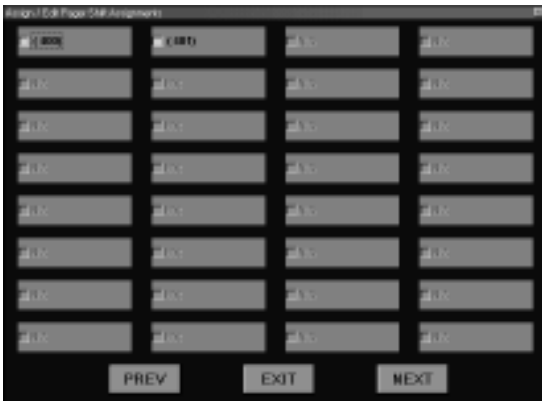

Figure 34: Assign/Edit Pager Shift Assignments
11. A new screen will appear to allow for pager shift assignments. Refer to *Figure 34* for the ASSIGN/EDIT PAGER SHIFT ASSIGNMENTS menu that will appear. (NOTE: The pagers listed in red are already selected to respond to that zone.)